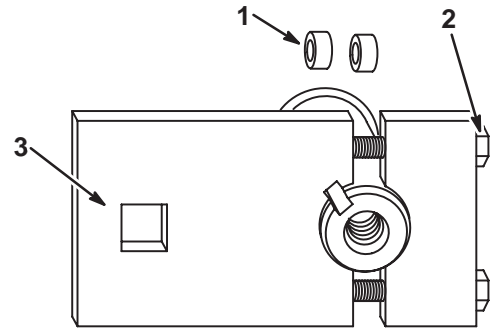

Fig. 47 – Installing Clamping Tool
5. Insert drive end of a 1/2" drive breaker bar into square hole in clamp, Fig. 47.